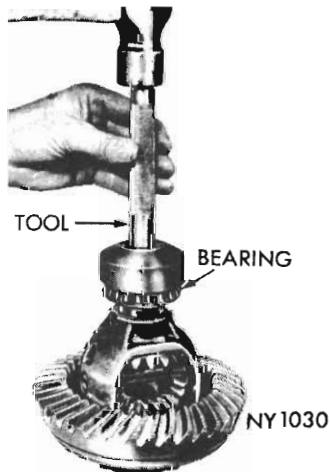

Fig. 23 - Installing differential bearing using Tool E3C25.
(9) Install bearing cones with driver. Tool E3C25 as shown in Fig. 23.